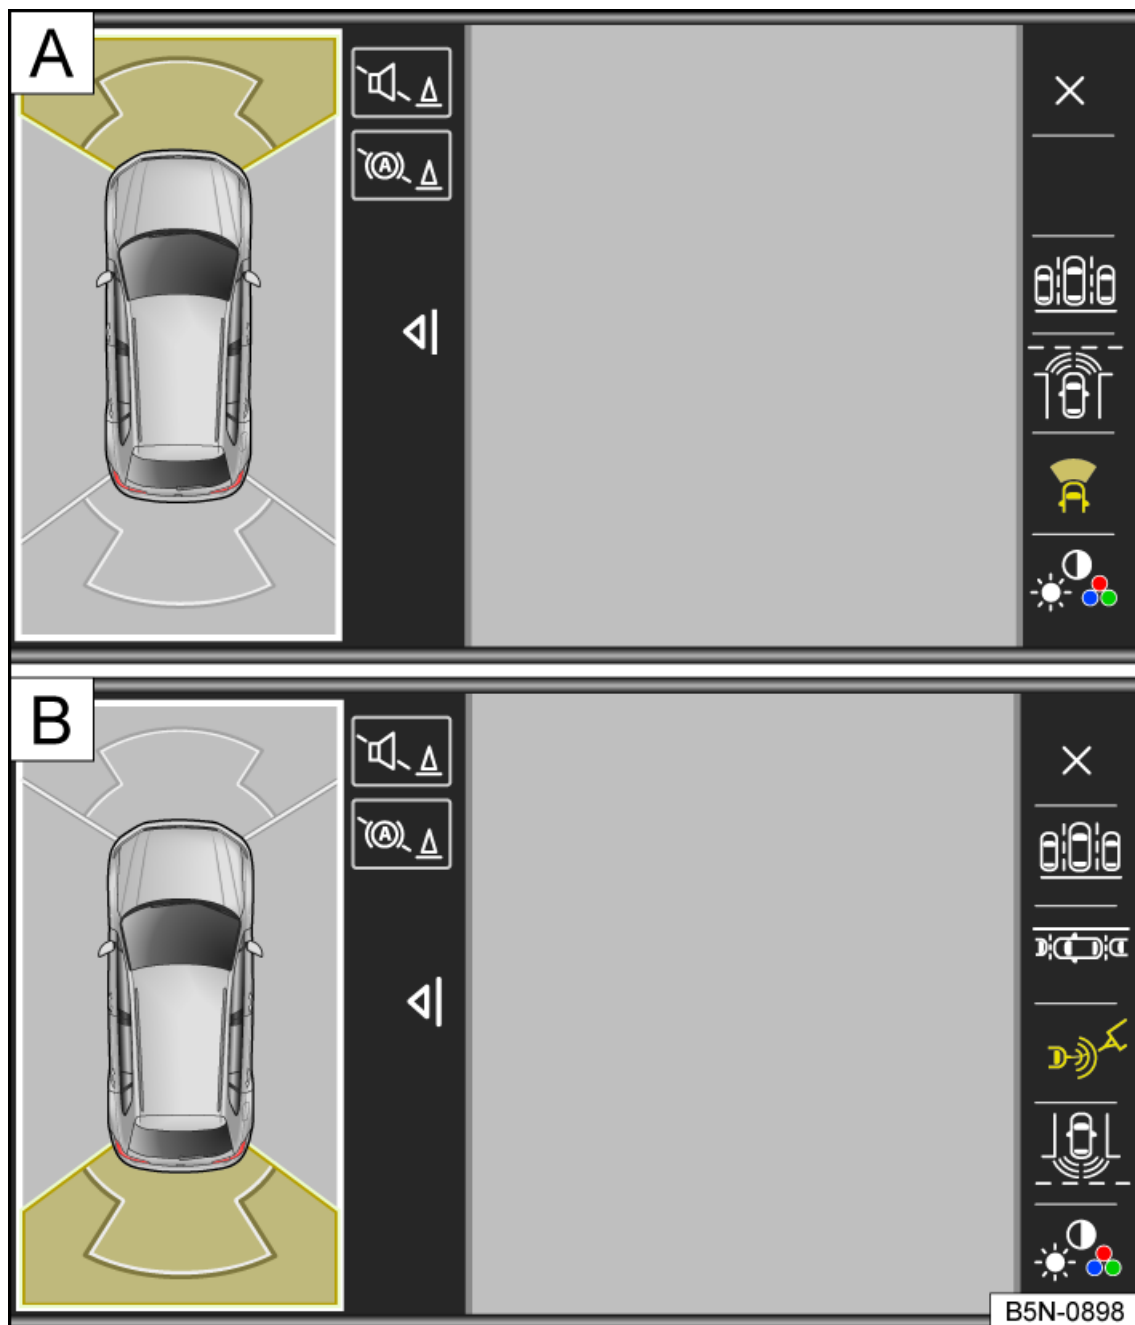

Fig. 155 Infotainment system: Area View screen display.
1. Tap the function keys on the image border to select a display fig. 155.
Two sections of the screen will be shown in the Infotainment system fig. 155: